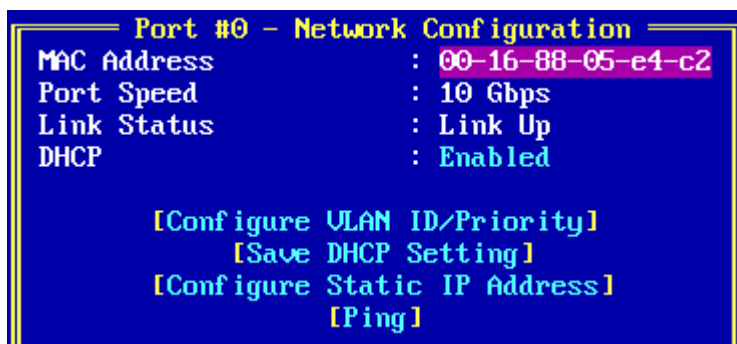

Figure 8-4 Network Configuration Dialog Box
1. From the Controller Configuration menu, select **Network Configuration** and press **<Enter>** (Figure 8-4).